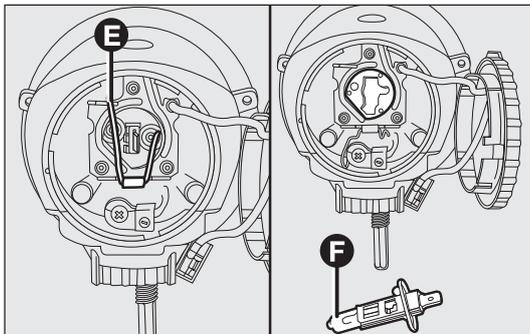

fig. 151
- release the clip E-fig. 151 and remove the bulb F;